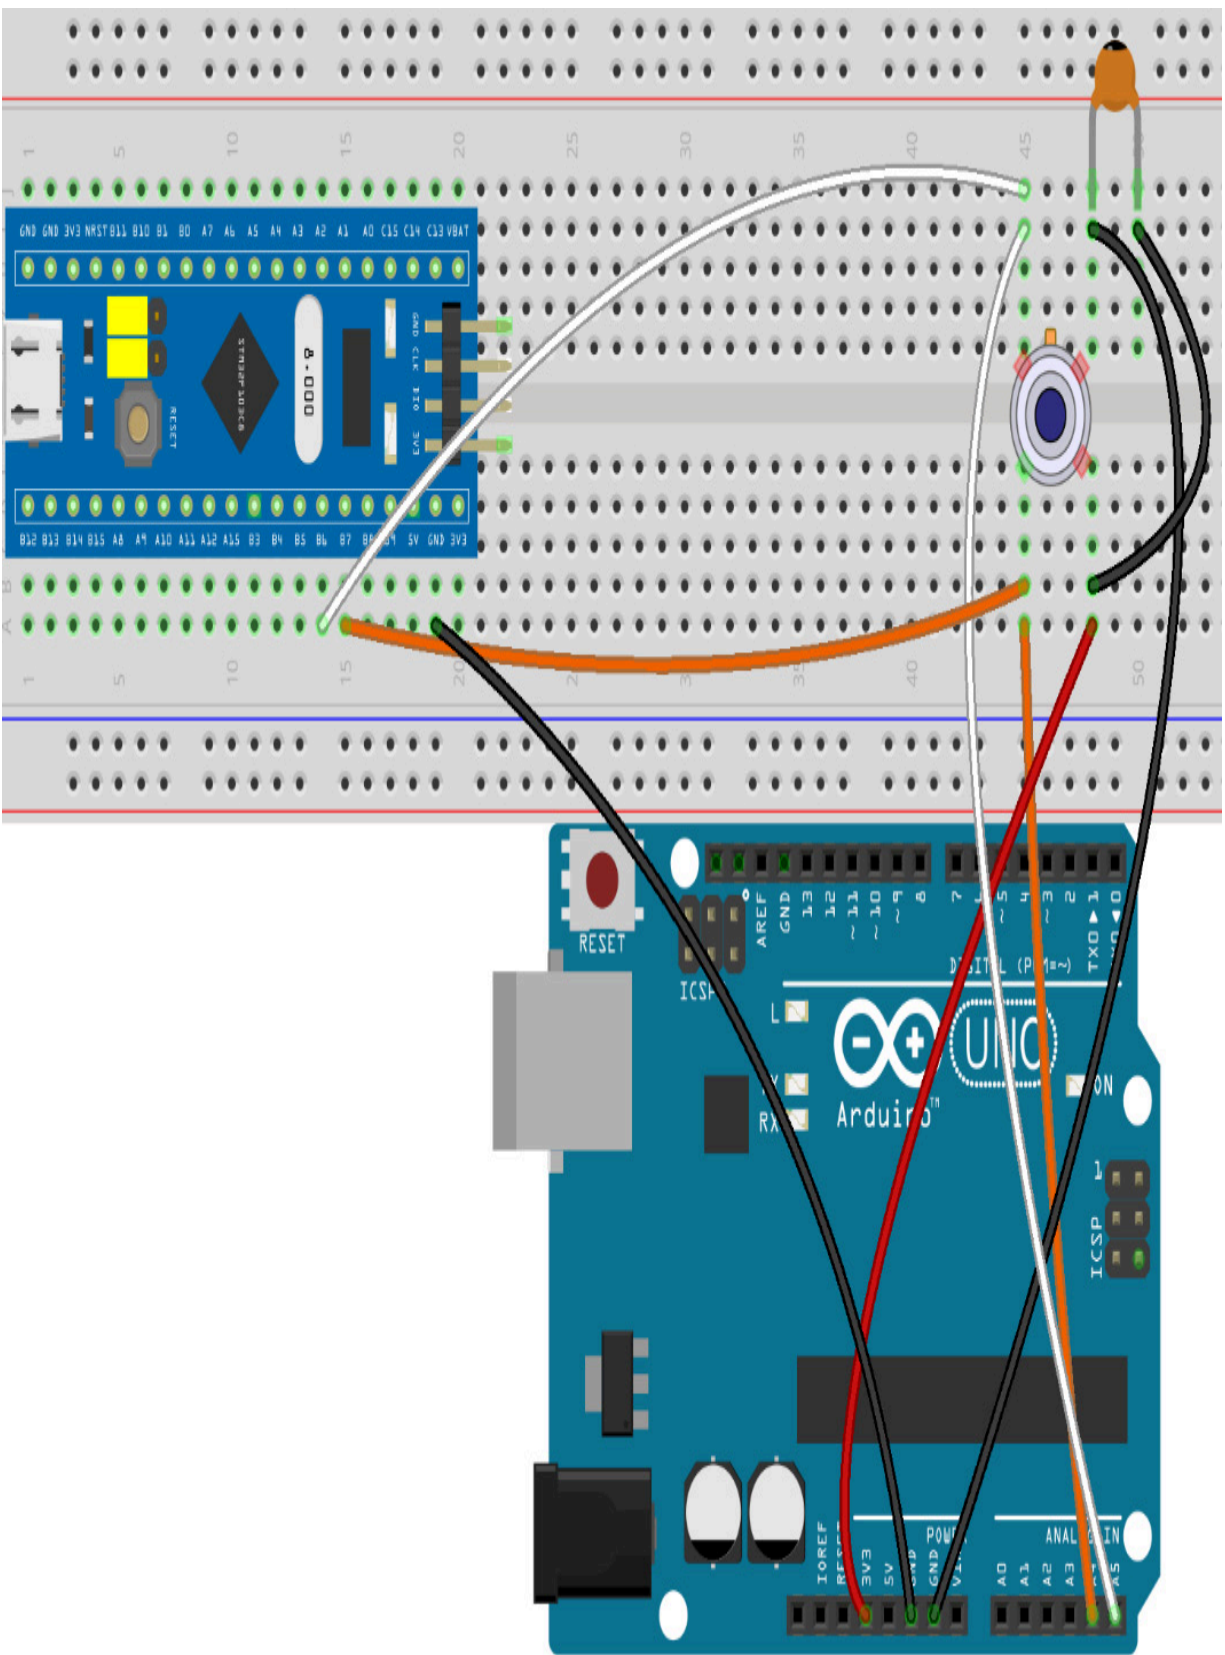

Figure 12.7 – The Blue Pill and Arduino Uno I2C connections
*Figure 12.7* shows a Fritzing diagram with the two microcontroller boards:
As *Figure 12.7* shows, here are the steps for connecting the Blue Pill to the I2C bus:
As you can see from all the connections from *Figure 12.7*, the Blue Pill, the IR sensor, and the Arduino Uno board are all connected by the SDA and the SCL pins. This is the I2C bus in our application.